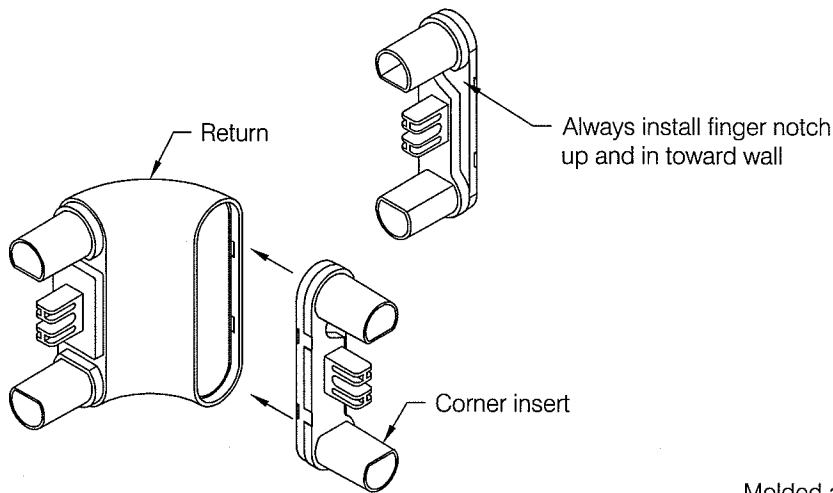

fig 3
**Step 5:** Assemble inside and outside corner accessories by snapping corner insert into the molded return, see **fig 3**. Always install the insert with finger notch up and in toward wall. It may be necessary to reverse the position of the molded return to accomplish the correct insert orientation.